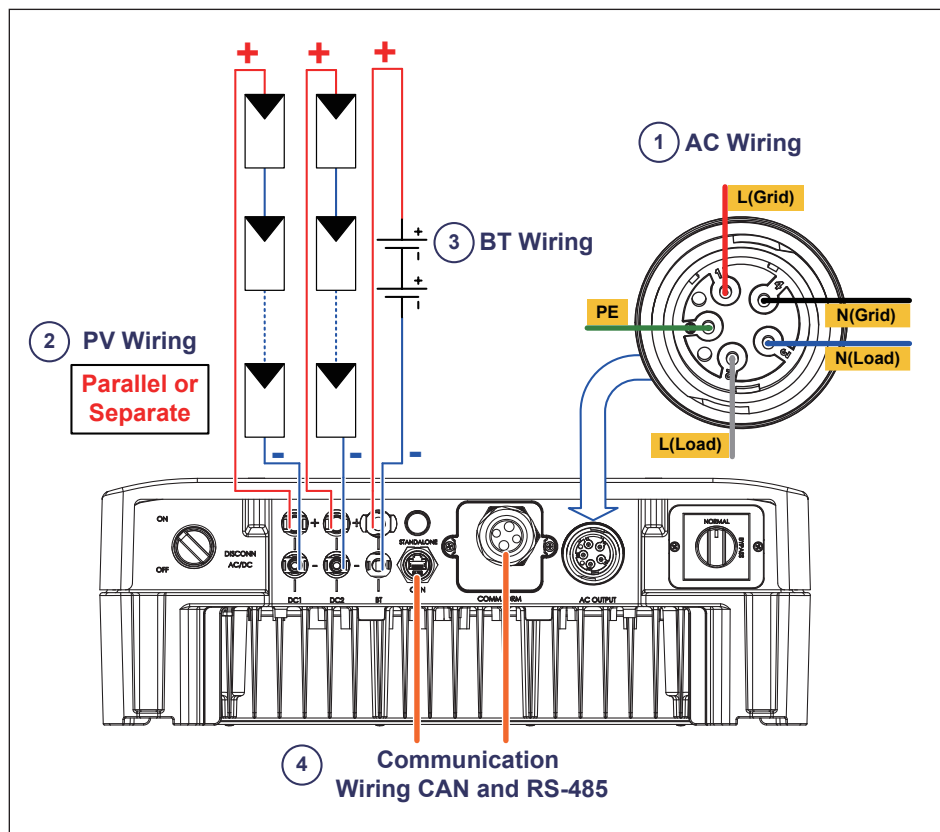

Figure 4-1 : Connection of system for floating solar array and battery
- The overview of wiring please refers to **Figure 4-1**.